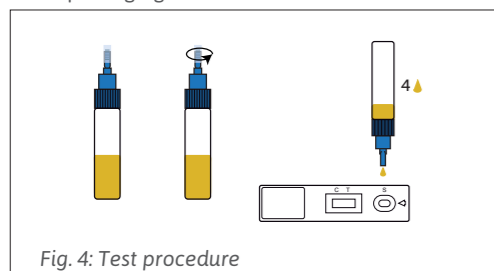

Fig. 4: Test procedure
1. Directly before performing the test, open the protecting foil pouch and take out the test device. Place the device horizontally, on a clean surface (Fig. 4). Use the test device directly after opening the packaging.